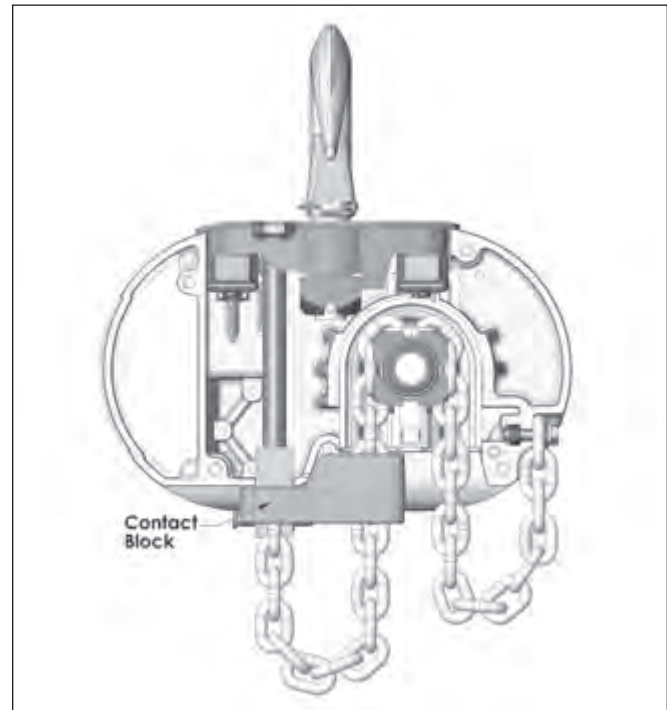

Figure 8. Contact Block Used on Models R, R-2, RR and RR-2
2. On Models E, E-2, H and H-2, insert the last link of the load chain into the dead end block (2) and secure it with the dead end pin, washer and cotter pin furnished with the suspension.
3. On Models R, R-2, RR and RR-2, slide the contact block up the chain until it is against the bottom of the hoist and the dead end block is projecting through the square opening in the bottom of the block. Insert the last link of the load chain, making sure there are no twists between the hook block and the dead end block, into the dead end block. Push the contact block up slightly and secure the load chain to the dead end block using the dead end pin, washer and cotter pin furnished with the suspension. The dead end pin also supports the contact block (See Figure 8)